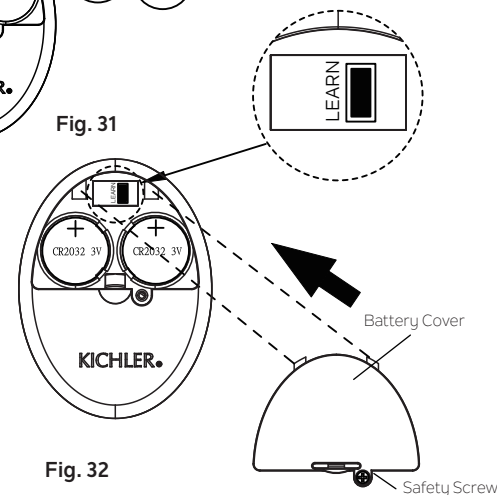

Fig. 32
Step 2. Restore power to the ceiling fan branch circuit at the circuit breaker or fuse box. Within 30 seconds of restoring power, press and hold the LEARN button on the back of the transmitter (Fig. 32) for 3 seconds. The light on the fan (if installed) will flash twice and the fan will turn on at a low speed. This confirms that the pairing process is complete. The transmitter will now be paired to your fan and ready for use.